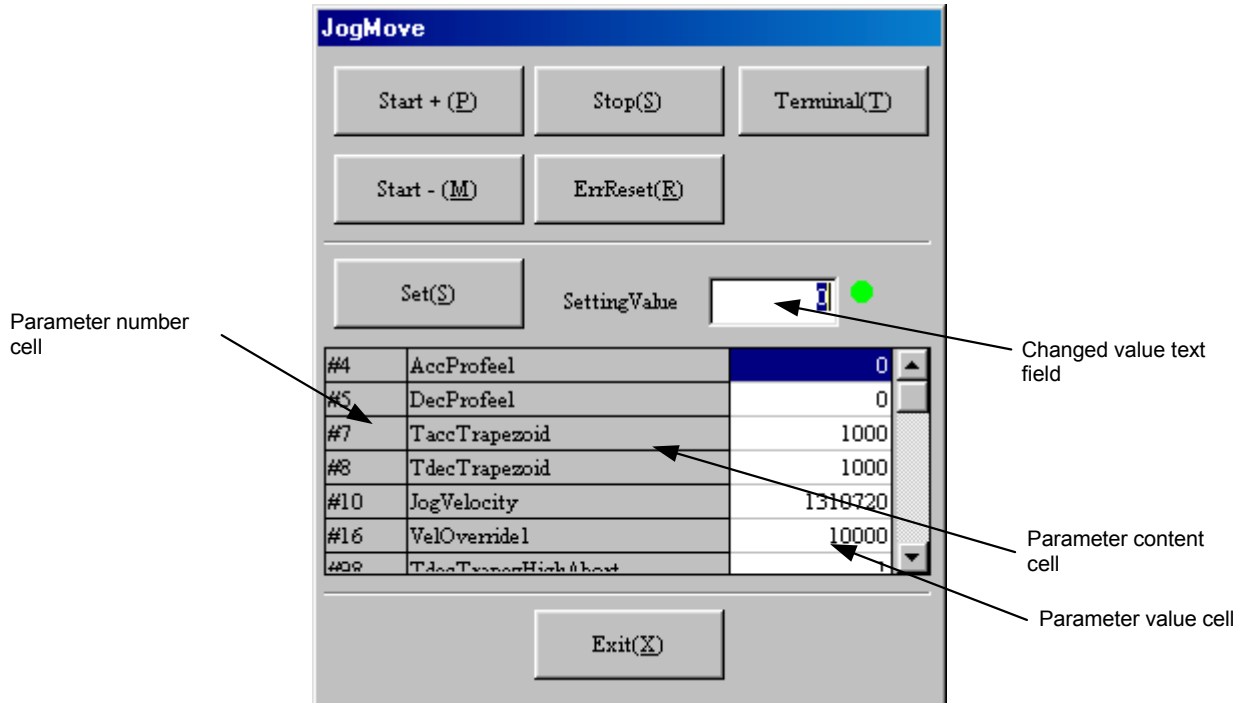

Figure 8.22 “JogMove” dialog box
- 1) Click "**Terminal (T)**."
Click “Jog (J)” in the “DriveMenu” dialog box to display the “JogMove” dialog box (see Figure 8.22). If the connection with the driver is established, the current values of the related parameters are read and can be edited.